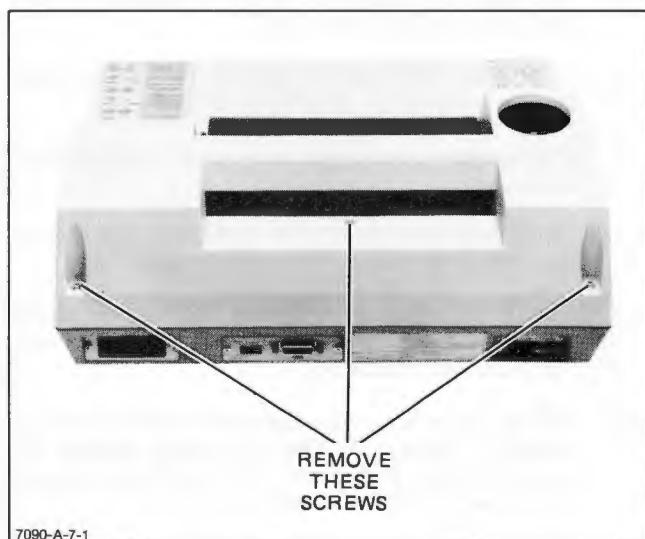

Figure 2-1. Top Cover Removal
- Set the HP 7090 LINE switch to OFF (O) and disconnect the line cord.
- Remove the HP 7090 top case by removing the screws indicated in Figure 2-1.